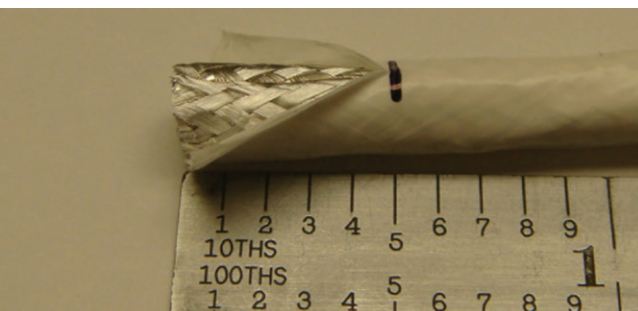

Figure 44: Slitting the cable jacket
4. Using a scalpel or scissors, slit the cable's jacket from its edge to the mark (Figure 44).